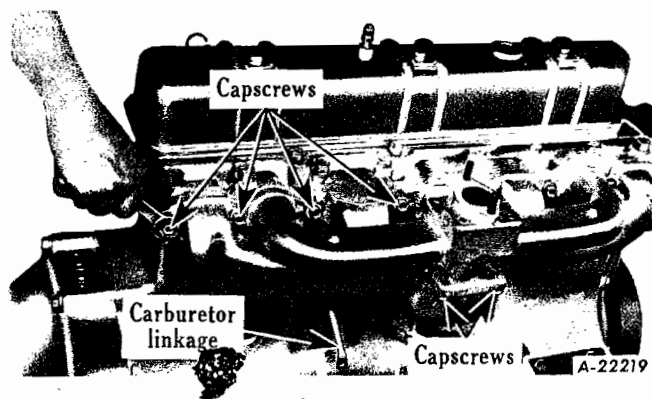

Fig. 41
1. After removing the eight capscrews from head and three bolts from exhaust flange, remove both intake and exhaust manifolds as a unit (Fig. 41). NOTE: Let manifolds cool before starting above operations.